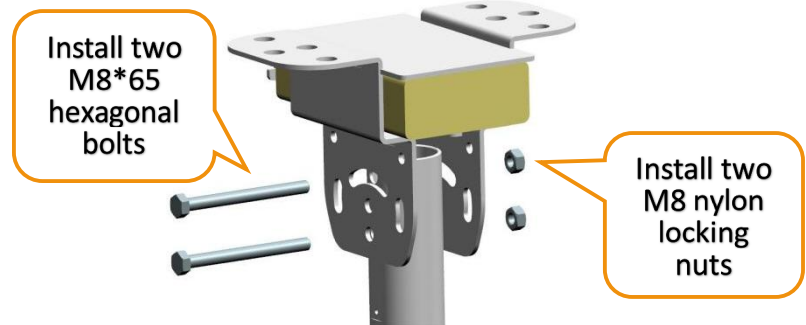

Figure. 3.3
③ Insert the upper end of the extension tube into the upper mount, align their installation holes. Then use two M8*65 hexagonal bolts, flat washers, spring washers, and M8 nylon locking nuts to tighten the structure while keeping the extension tube perpendicular to the upper mount (see Figure 3.3)